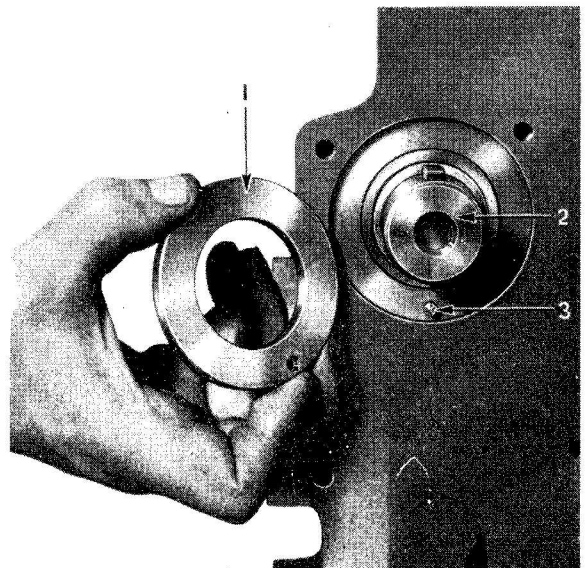

Fig. 18 1. CAMSHAFT THRUST WASHER
6. Remove the camshaft thrust ring (Fig. 18).
4. Fit the camshaft thrust ring on the dowel in the front face of the cylinder block (Fig. 18). Check the protrusion beyond the front face of the cylinder block. See 'Data'.